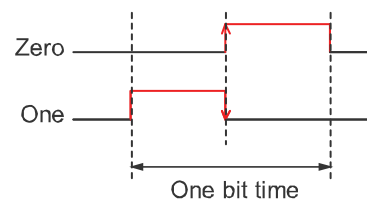

Figure 6. Manchester Coded Data
2. It always has a transition at the center of every bit (Figure 6). This certainty of a transition simplifies the decoder's task of recovering the encoder's clock rate and then actually decoding the data stream.